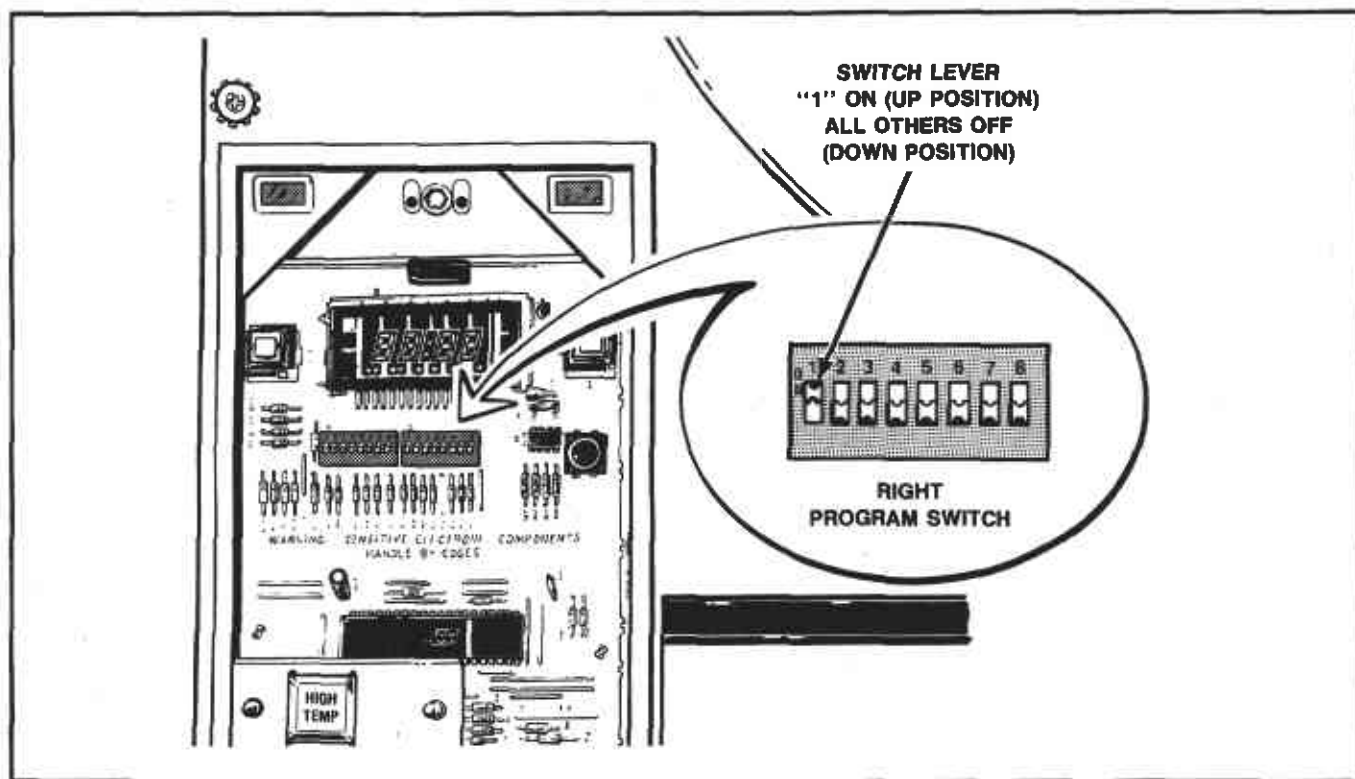

Figure 41
- Slide right program switch lever number 1 up, Figure 41, leave all the other right program switches down. The START and PERM PRESS lights will be lit and PCO3 will appear on the display.
- Heater relay closes causing the burner to come on, display will show rising temperature. Burner will operate for two minutes, or until the programmed PERM PRESS temperature is reached, plus five (5) degrees.
- After an additional fifty (50) seconds the COOLING light will go out, motor relay will open, START light will be lit and PCO3 will again appear on the display.